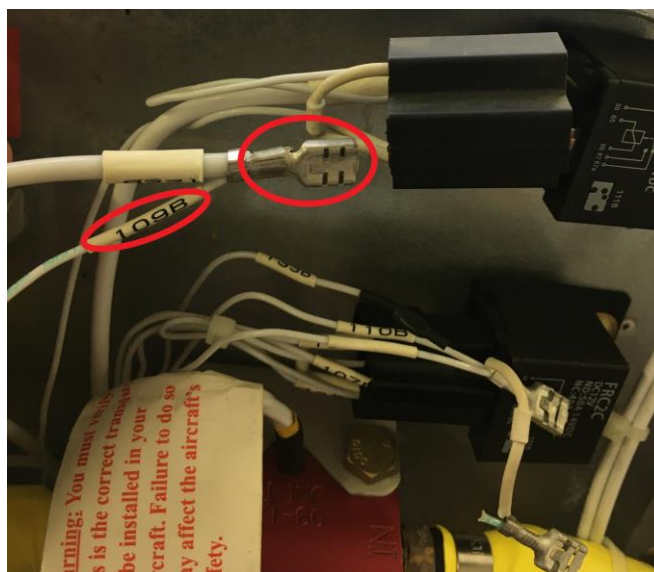

Fig. 22: Wire 109B
20) Using a screwdriver, loosen the locking tab and slide out the wire marked 109B (See Fig. 22)